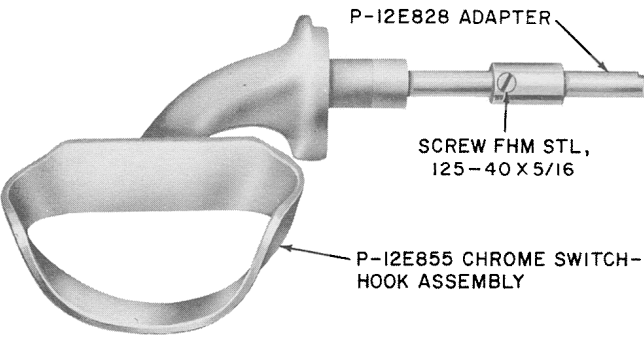

Fig 26 — Two-Piece Switch Hook Assembly
3.10 Switch Hook Assembly: New coin collectors have 2-piece, chrome-plated P-12E855 switch hook assemblies (Fig. 26). Coin collectors converted from transmitter-receiver type to handset type use P-10C139 switch hook assemblies which require a P-10C136 auxiliary spring.